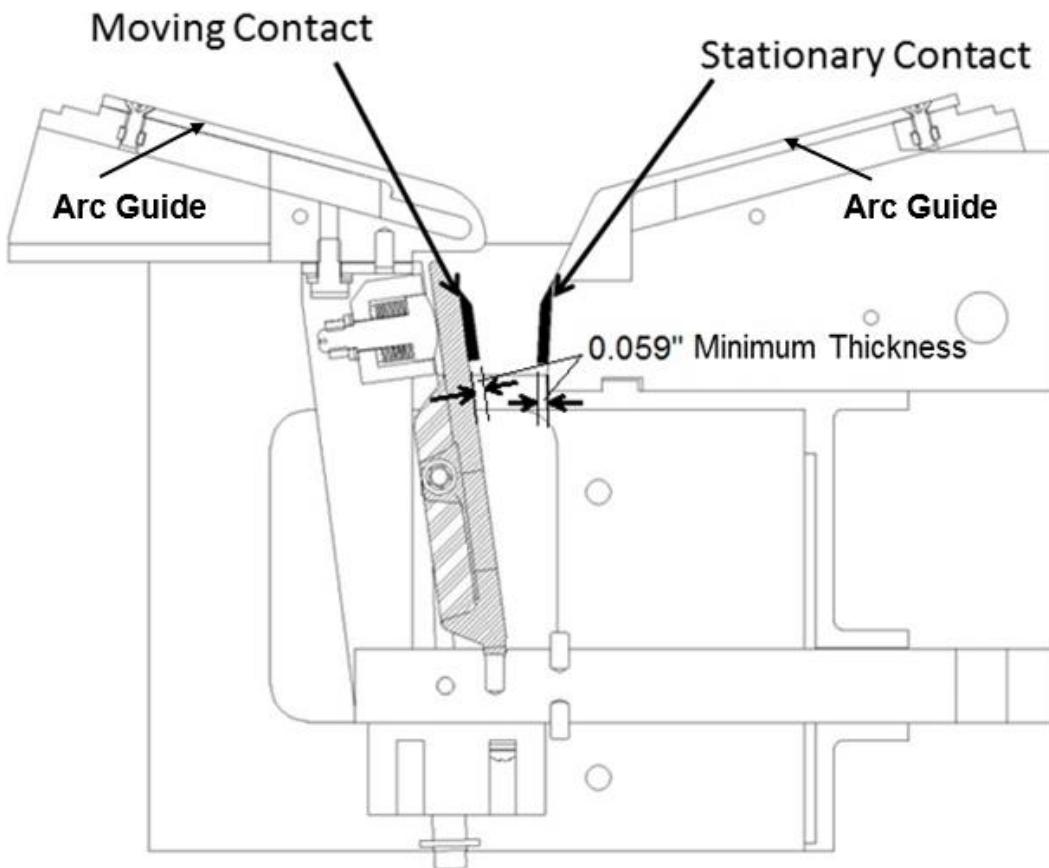

Figure 4-18: HSCB Contact Measurement, New
4. Measure the thickness of the stationary contact and moving contact. See Figure 4-18 for reference. Measure the height of the areas indicated in black, with respect to the main surface of the contacts. These raised areas will wear during use. The surfaces will be black and pitted due to the burn marks created as the HSCB is used. This is normal for an HSCB. Each contact is 3 mm (0.118") when new. If the thickness is 1.5 mm (0.059") or less on either of the contacts, remove the HSCB and replace with a spare. Have the contact tips replaced, the HSCB cleaned, lubricated and then tested on a bench.
5. As seen in Figure 4-18, check the arc guides for any burn marks or pitting. The arc guides can be cleaned with a clean dry lint free cloth. Wipe the arc guides starting at the contact tips and wipe outwards away from the contacts. With sever burning or pitting on either of the arc guides, the minimum acceptable width for either guide is 14 mm and minimal acceptable thickness for either guide is 1.3 mm.